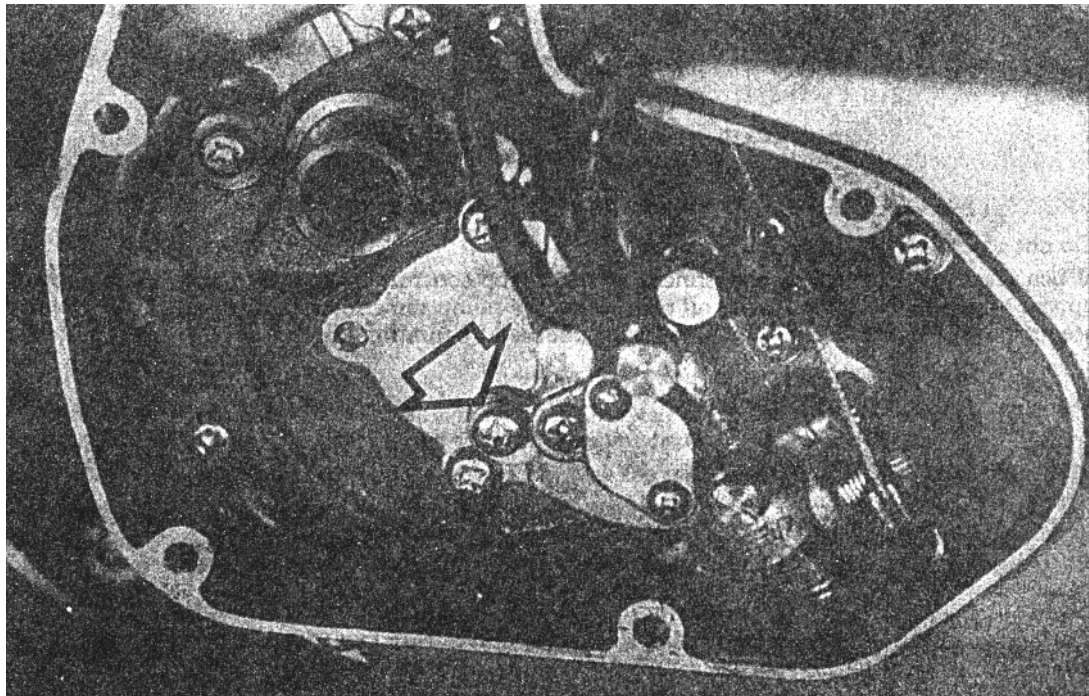

Figure 1
The gear cavity is located behind the oil pump and left carburetor (Figure 1). This cavity must be kept filled with a good grade of 30 weight motor oil. To fill, proceed as follows:
- B. Remove oil level screw (indicated by arrow in figure 1.) This oil level screw is easily identified because it has a red fiber gasket under it. (Note: The carburetor has been removed in figure 1 for clarity.)